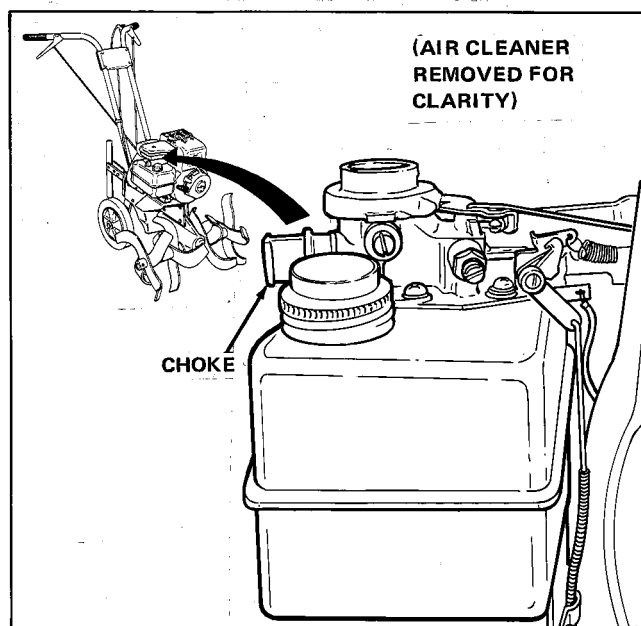

Figure 3. Choke
2. Pull choke fully outward (see figure 3). When engine is warm, it may not be necessary to use choke.